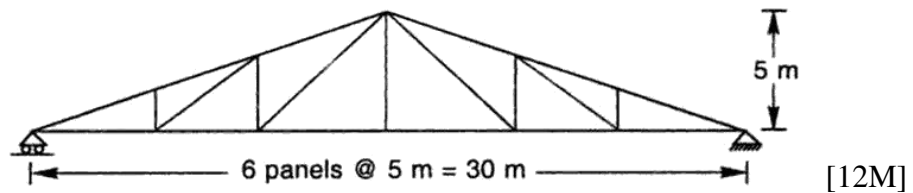

Figure 3
7. Describe and design a Pratt-truss as shown in Figure 3 the design wind pressure is 1200N/m^2 . The trusses are covered with AC sheets and the centre-to-centre spacing of trusses is 6m.